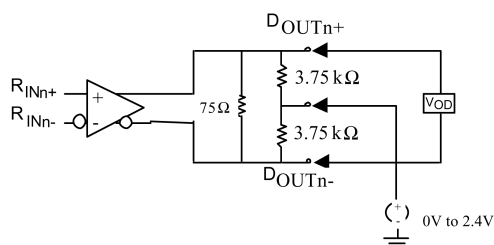

FIGURE 1. Common Mode Supply Test Circuit
- When the true and complement LVDS outputs (having a  $75\Omega$  connected between outputs) are connected to  $3.75\text{ k}\Omega$  resistors and the common point of those  $3.75\text{ k}\Omega$  resistors are connected to a voltage source that sweeps from 0 to 2.4V, the DC  $V_{OD}$  and  $\Delta V_{OD}$  are still maintained (see Figure 1).